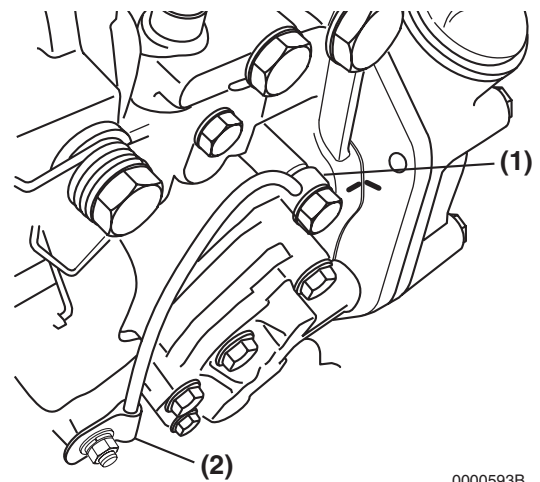

Figure 7-8
14. Disconnect the lube oil line (**Figure 7-8, (1)**) and the clamp (**Figure 7-8, (2)**) from the pump.